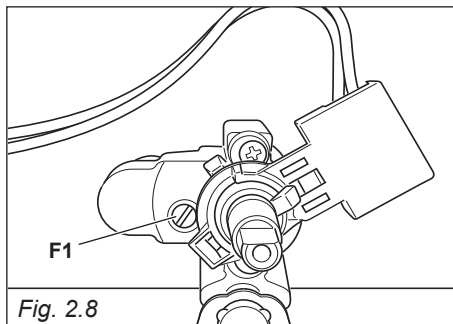

Fig. 2.8
- Using a screwdriver turn the screw “F1” until adjustment is correct (fig. 2.8).